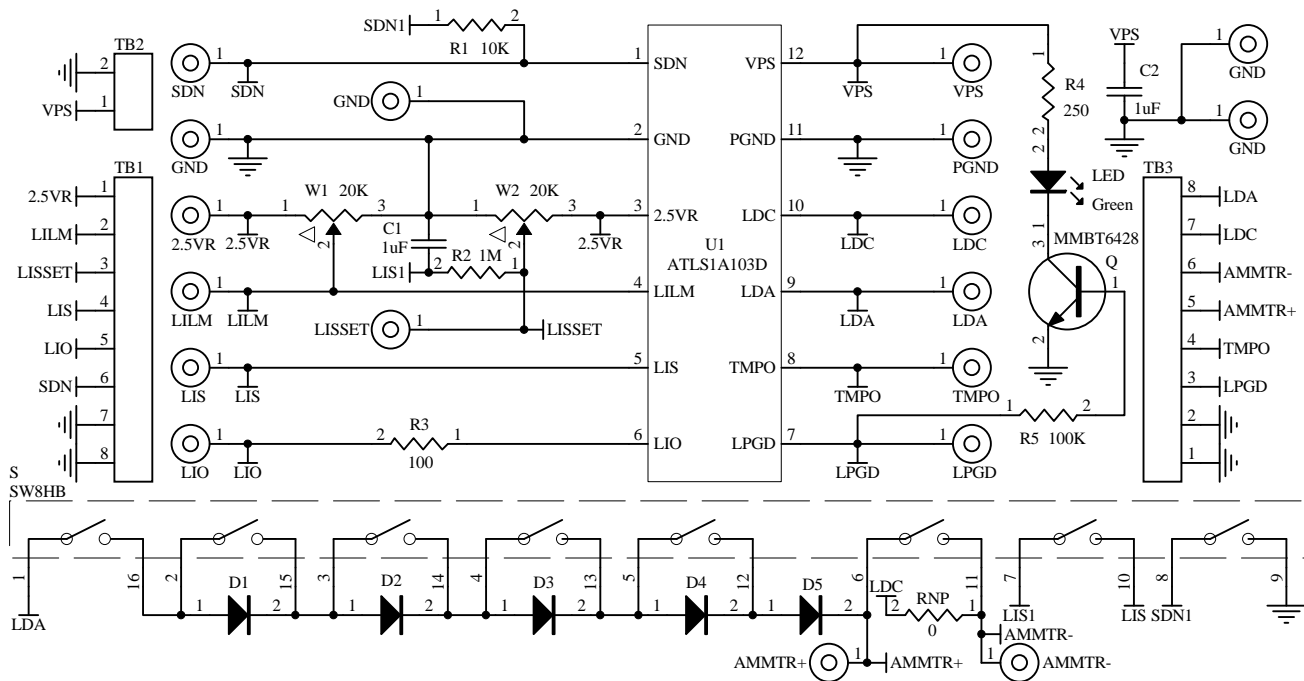

Figure 7. Schematic of ATLS1A103DEV1.0
The schematic is shown in Figure 7 below.
- B. Turn the switch S1F to its lower off position, thus the output current goes through the ammeter and can be measured by reading Ammeter's value.; when the switch S1F is placed in the upper on position, the ampere meter is shorted, thus, it does not measure the output current, see the schematic shown in Figure 7.
- 6. Test the controller with the “dummy laser”. The 5 diodes on the board, D1 to D5, can form a “dummy laser” to act as the laser diode in the place of a real laser so that in case there is a problem in the circuit, the expensive laser would not be damaged, see schematic in Figure 7. Turn the switch S1A to the on position (upper), to connect the “dummy laser” to the controller. Turning switches S1B, S1C, S1D and S1E, up and down will increase (turning down the switches) and decrease (turning up the switches) the forward voltage of the “dummy laser” which can be measured by a volt meter between the LDA and the ground. Each diode can increase or decrease the output forward voltage by about 0.7V when the output current is 1A. **Warning: when output 1A current, the diodes may get very hot, don't put your fingers on them.** The switch bank and their corresponding diodes are shown in the table below. The diode D5 is always activated so that the total forward voltage range is from 0.7V to 0.7V + 0.7×4 = 3.5V. Please be aware of this fact: when the output voltage is low by shorting circuit all the diodes, the controller will need to consume a lot of power and may get too hot that the internal temperature protection circuit shut off the controller automatically. When this happens, wait for a few seconds, let the controller cool down, the controller will restart by itself again after the temperature is lowered to certain level. This is the way to calculate the power consumption of the controller: